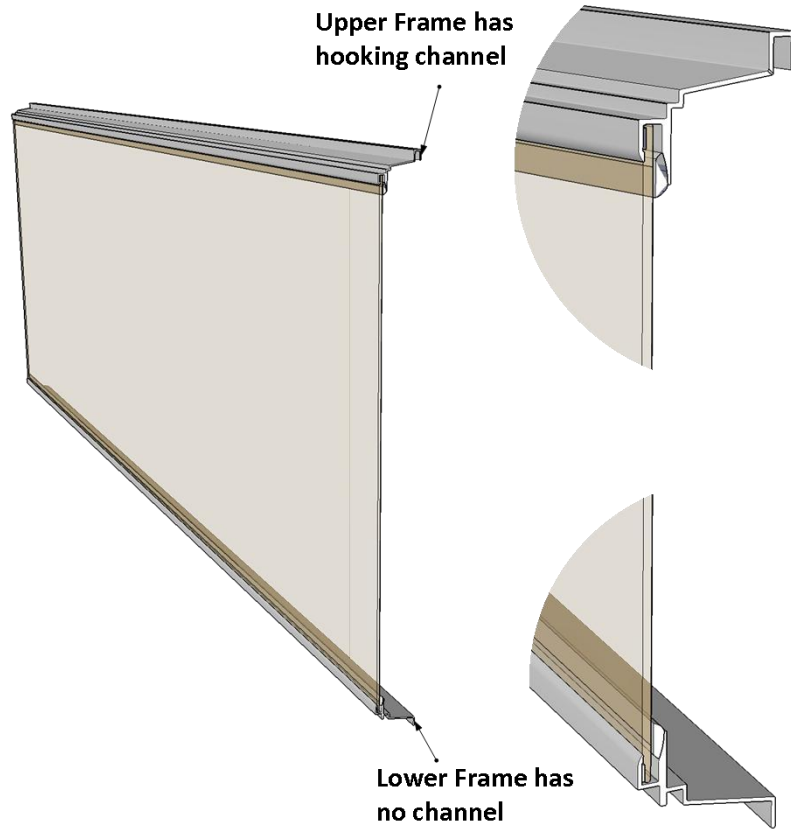

Figure 13A
Step 10: Install Reflector – Figures 13A – 13C
The Wave XT reflector is not reversible; it has defined upper and lower sides. The upper reflector frame has a hooking channel at its outer edge and the lower reflector frame does not. See Figure 13A.